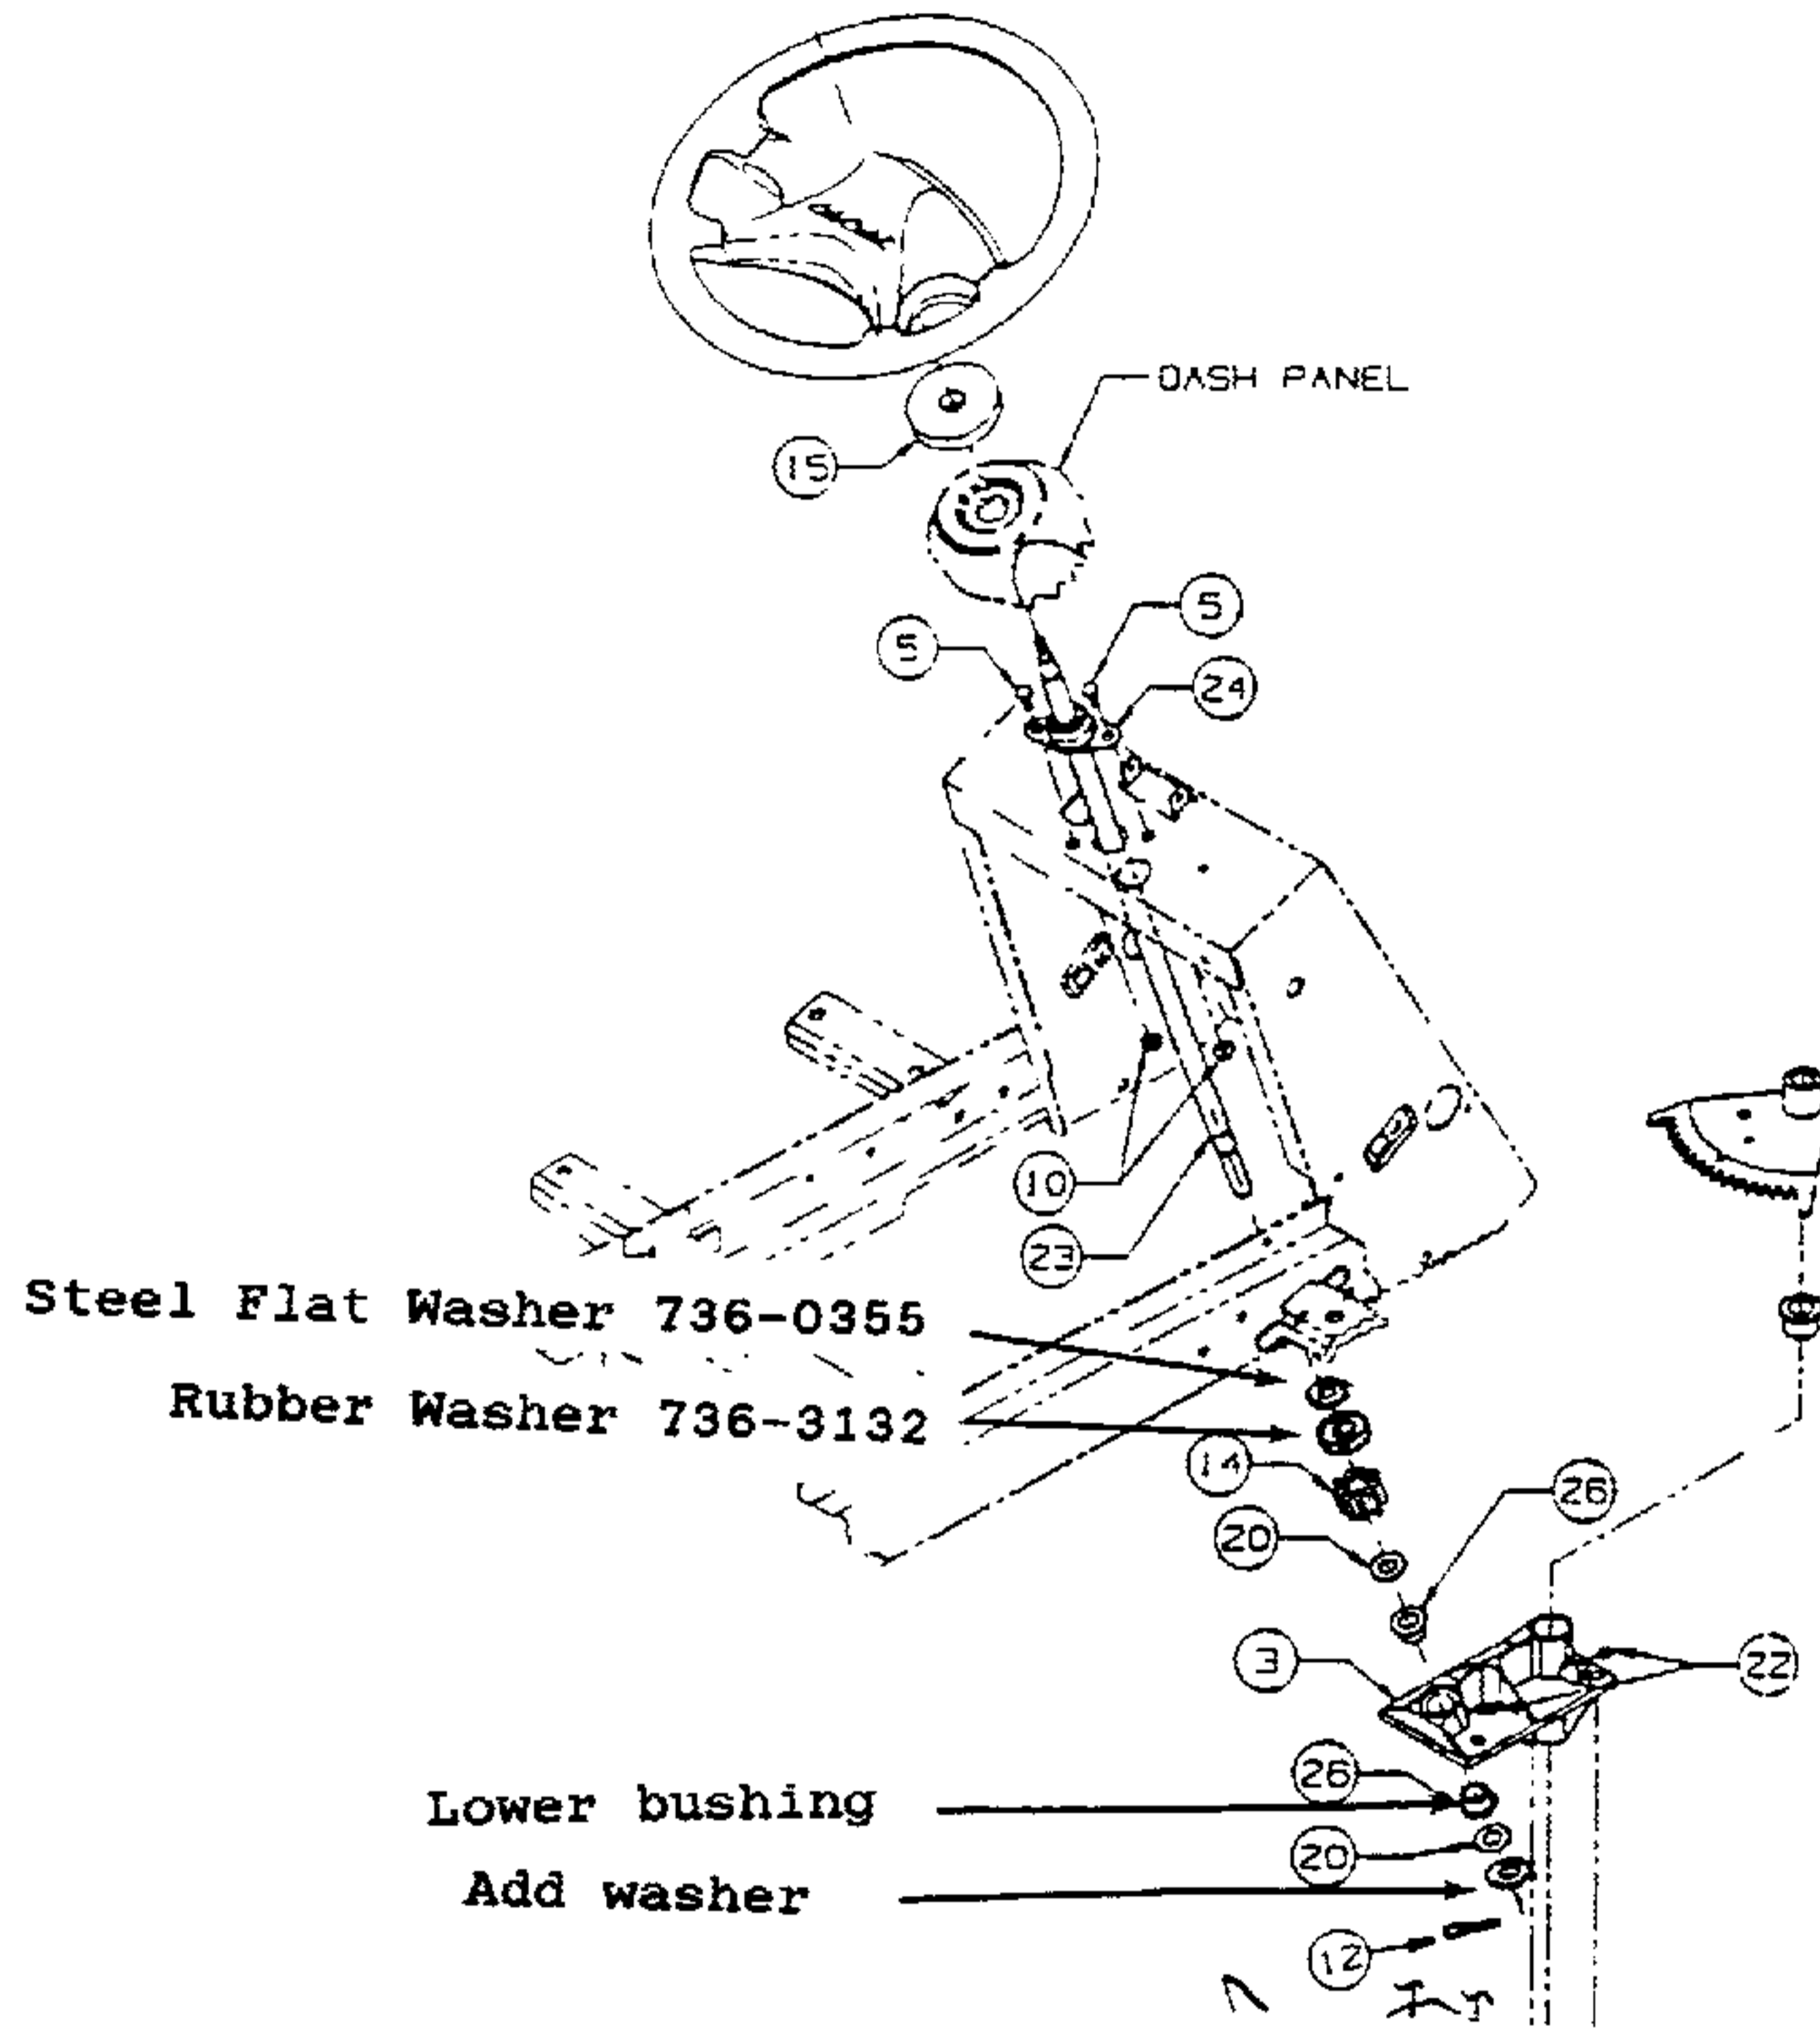

fig. 2
1) Remove the steering wheel shaft by removing the cotter pin located at the bottom of the steering shaft. (See item 12 fig.2)
4) Using a slide hammer, and bearing remover tool, remove the lower bushing from the steering housing. See item 26 fig. 2.
see fig. 2 on the bottom of the steering shaft along with the pinion gear. Install the flat washer on the shaft, the one removed during disassembly, and install the shaft back into the steering housing . NOTE: Make sure the pinion gear engages the steering fan gear and slide down in place. Be sure steering wheel is correctly installed before continuing, is the Cub Cadet logo turned in the proper direction.